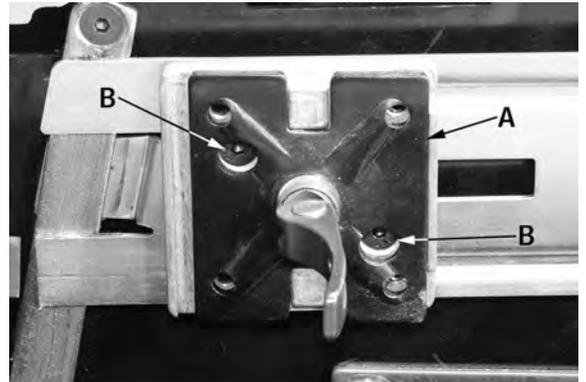
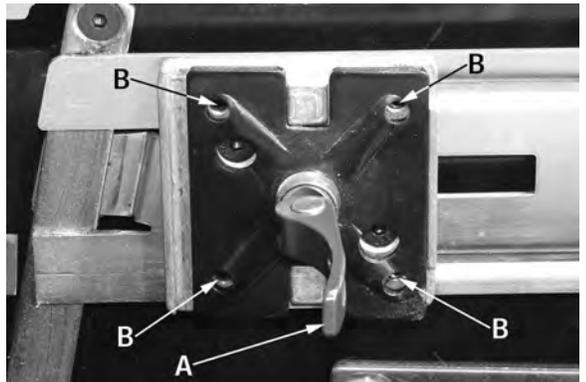

FIGURE 19
FIGURE 21
2. The riving knife plates (A) Fig.19 are held together with two locking screws (B). These two locking must be slightly loosened before an adjustment can be made. Loosen locking screws (B).
4. Pull the lock handle (A) Fig.21 to release tension on the fixing plates. Remove the blade guard and riving knife assembly.
5. To adjust the position of the fixing plates, adjust the upper or lower set screws (B) in the required direction to square the riving knife.
7. Once adjustment is done, retighten locking screws (B) Fig.19.